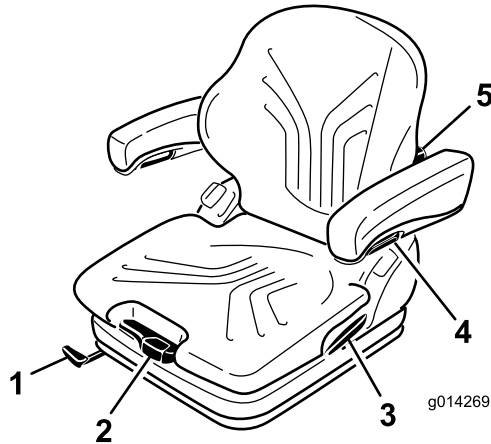

Figure 19
The seat is adjusted for your weight by pulling or pressing the weight-adjustment lever (Figure 19).
1. To adjust, lift the lever to unlock the seat (Figure 19).
By turning the adjustment knob upwards, the curvature in the upper part of the backrest cushion can be adjusted. By turning the knob downward, you can adjust the curvature in the lower part of the backrest cushion (Figure 19).
To adjust the armrests for height, separate the round cap (Figure 19) from the cover, loosen the hexagon nut (13 mm) behind it and adjust the armrests to the desired position and tighten the nut. Replace the cap onto the nut.
To adjust the angle of the armrests, turn the adjustment knob (Figure 19).
Pull up the locking lever to release the backrest catch (Figure 19). When releasing the backrest catch, do not apply load to the backrest by pressing against it.